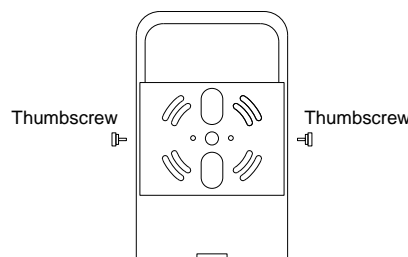

Figure 1
2. Remove the two mounting bracket thumbscrews, and remove the mounting bracket (see Figure 1).